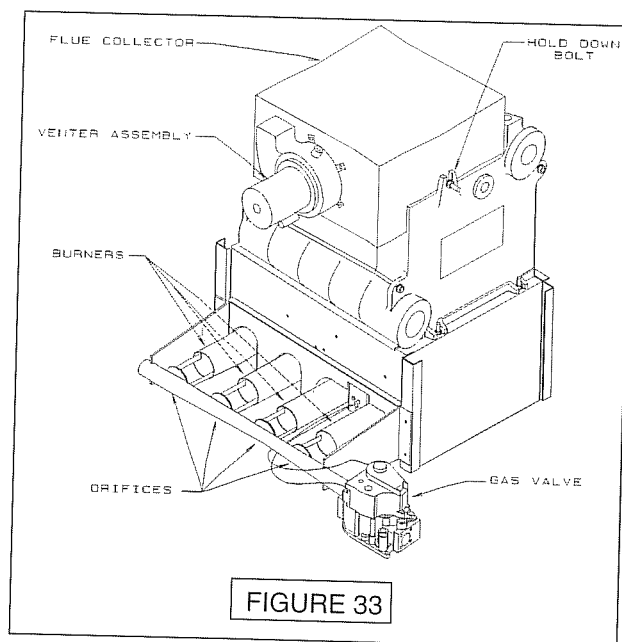

FIGURE 33
- A. Check the burner throats and burner orifices for lint and dust obstructions. See figure 33 above.